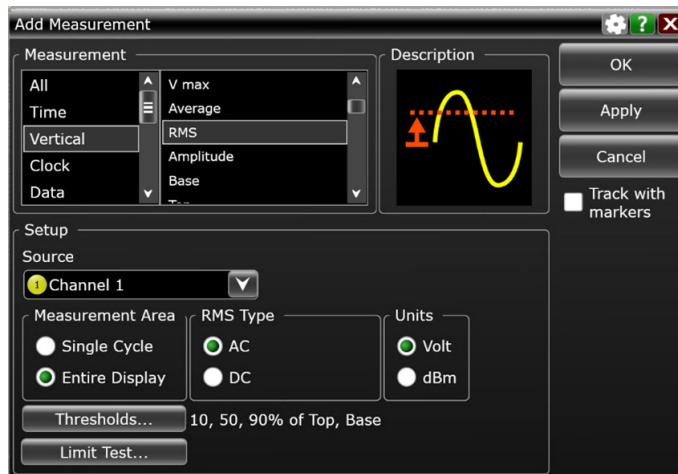

Figure 11 Add Measurement window
- 9 In the **Add Measurement** dialog, select the Vertical RMS measurement as shown in Figure 11.